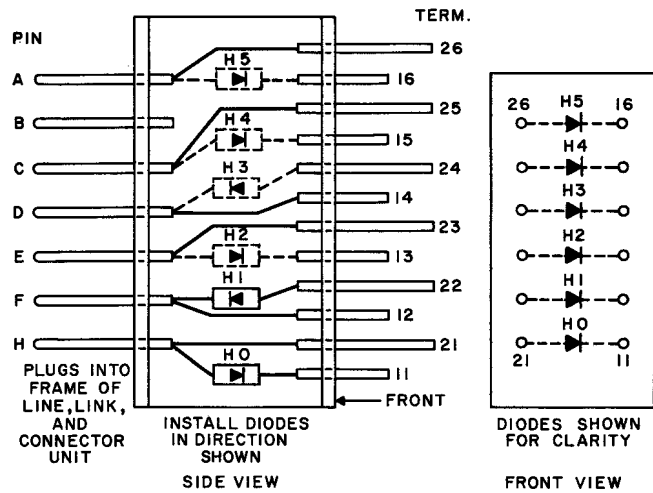

Fig. 5 - Front and Side View of Terminal Strip A
2.07 For one-way hunting purposes each line, link, and connector unit is furnished with two 426A diodes (H0 and H1) wired to terminal strip A. Terminal strip A is a plug-in assembly to facilitate placing of additional diodes in field. (See Fig. 5.) Strapping between terminal strip A and H terminal field of strip B inserts diodes into the circuit.